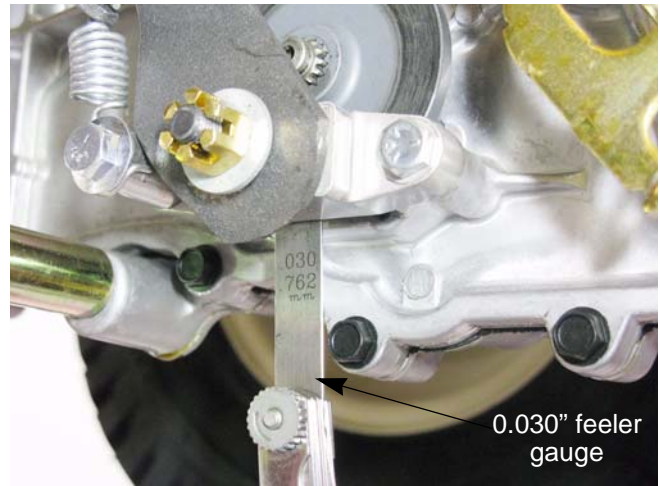

Figure 4.4
5. Insert a 0.030" (0.8 mm) feeler gauge between the brake rotor and the outboard brake puck. See Figure 4.4.